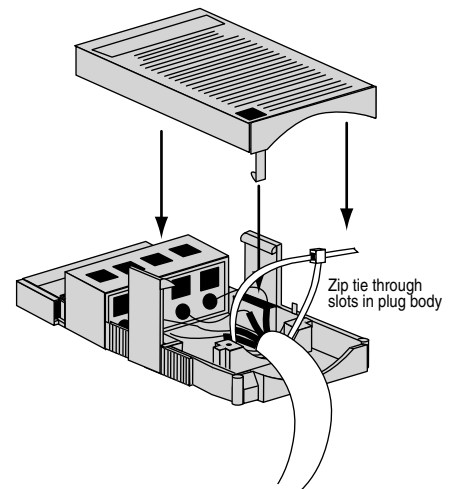

Figure 4
- ⑤ Secure cable to plug body using plastic "zip tie" (included), and trim excess.
- ⑥ Once all wires are securely in place, assemble plug by snapping cap onto body of plug (see Fig. 4).